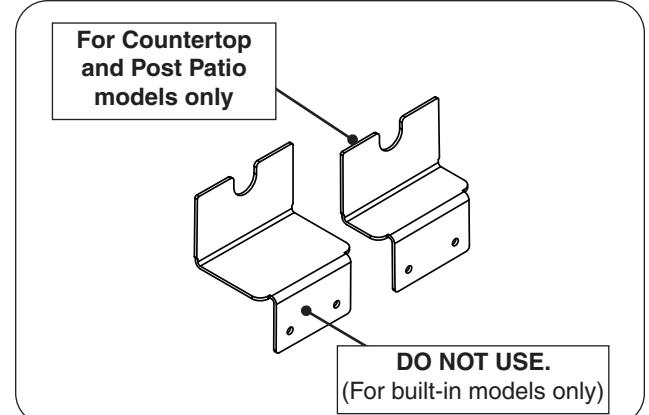

Fig. 13-3 Select rotisserie bracket (if equipped)
2. Locate the correct rotisserie bracket for your installation. Use the small bracket to mount the rotisserie motor. Do not use the large bracket as it is for built-in models only. See Fig. 13-3.